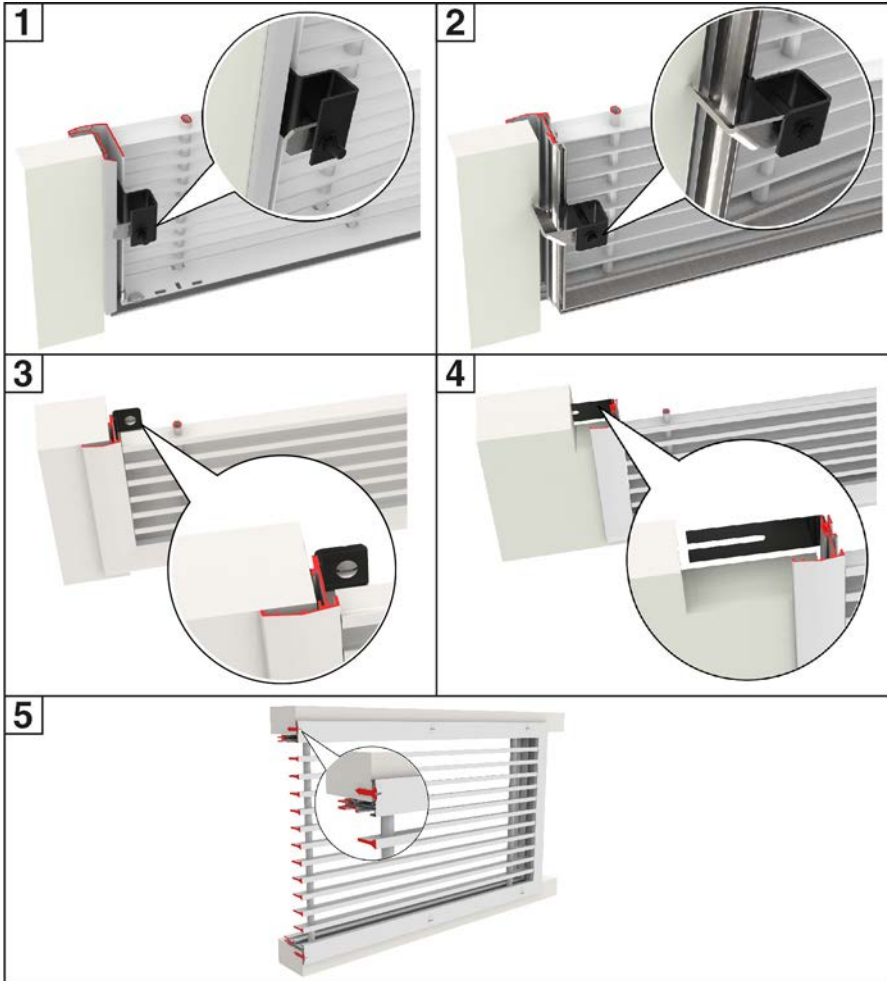

Fig. 2: Fixing types, no. of fixings (fixing types 1 - 4) according to the respective table
**No. of fixings for standard grille Fig. 2, fixing types 1 - 4 (depending on grille size)**
**No. of fixings for continuous horizontal runs Fig. 2, fixing types 1 - 4 (depending on grille size)**